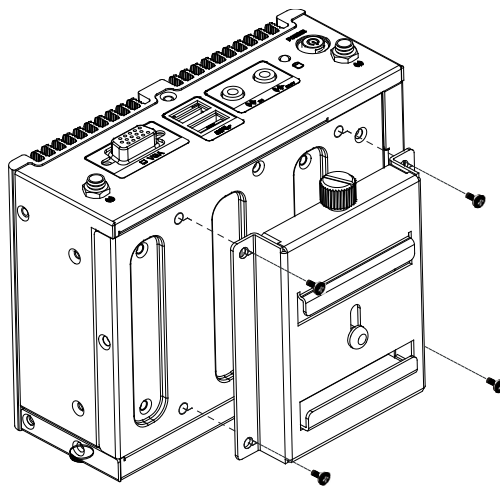

Figure 3-16: DIN Rail Mounting Bracket
Step 1: Attach the DIN rail mounting bracket to the bottom panel of the embedded system. Secure the bracket to the embedded system with the supplied retention screws (**Figure 3-16**).